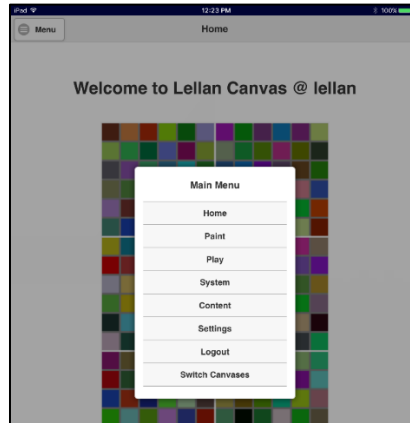

Figure 5-19: The Home Page and the Main Menu
- This will take you to the *Home* Page and bring up the *Main Menu* (see Figure 5-19). If the *Main Menu* does not appear, tap the *Menu* button in the upper-left corner of the page.